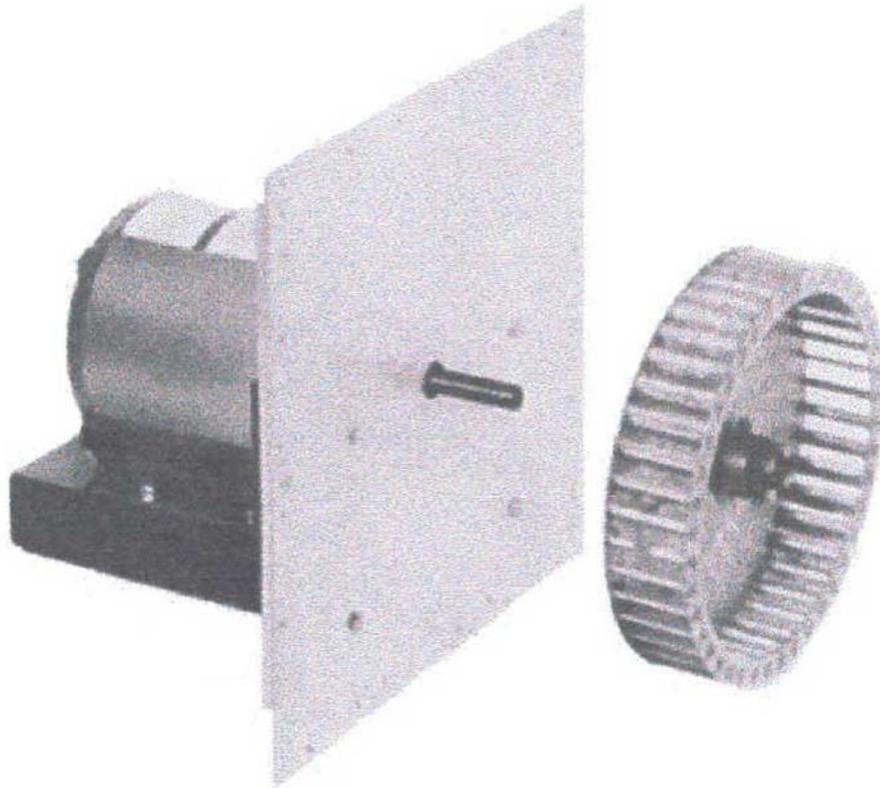

Figure 6-7. Blower Wheel Removal
3. Loosen set screws in blower wheel hub. See Figure 6-7.